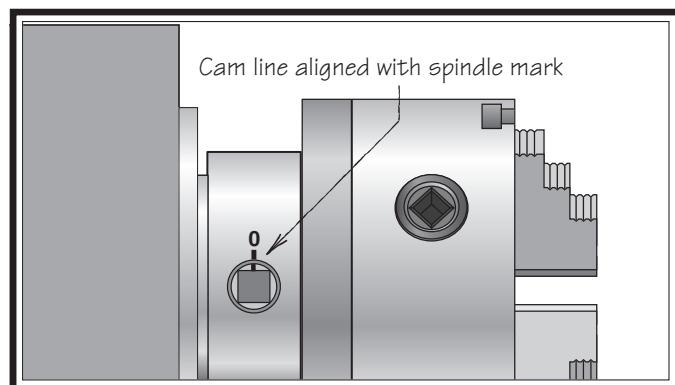

Figure 21. Camlock is fully loosened when the cam line is aligned with the spindle mark.
3. Loosen the camlocks by turning the key counterclockwise until each of the cam lines are aligned with its corresponding spindle mark (see **Figure 21**).